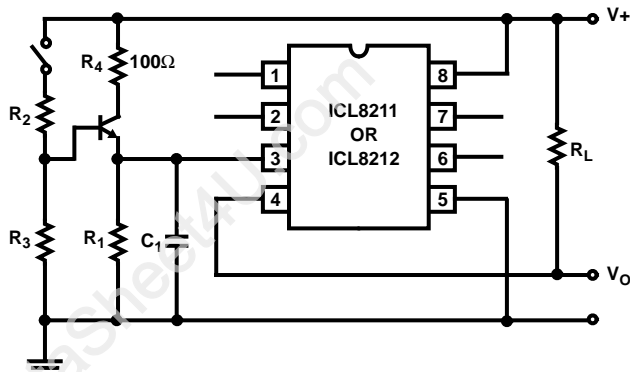

FIGURE 37. SWITCH BOUNCE FILTER
**Switch Bounce Filter (Figure 37)**
SPST switches range from push button and slide types to calculator keyboards. A major problem with the use of switches is the mechanical bounce of the electrical contacts on closure. Contact bounce times can range from a fraction of a millisecond to several tens of milliseconds depending upon the switch type. During this contact bounce time the switch may make and break contact several times. The circuit shown in Figure 37 provides a rapid charge up of  $C_1$  to close to the positive supply voltage ( $V_1$ ) on a switch closure and a corresponding slow discharge of  $C_1$  on a switch break. By proportioning the time constant of  $R_1 C_1$  to approximately the manufacturer's bounce time the output as terminal #4 of the ICL8211/8212 will be a single transition of state per desired switch closure